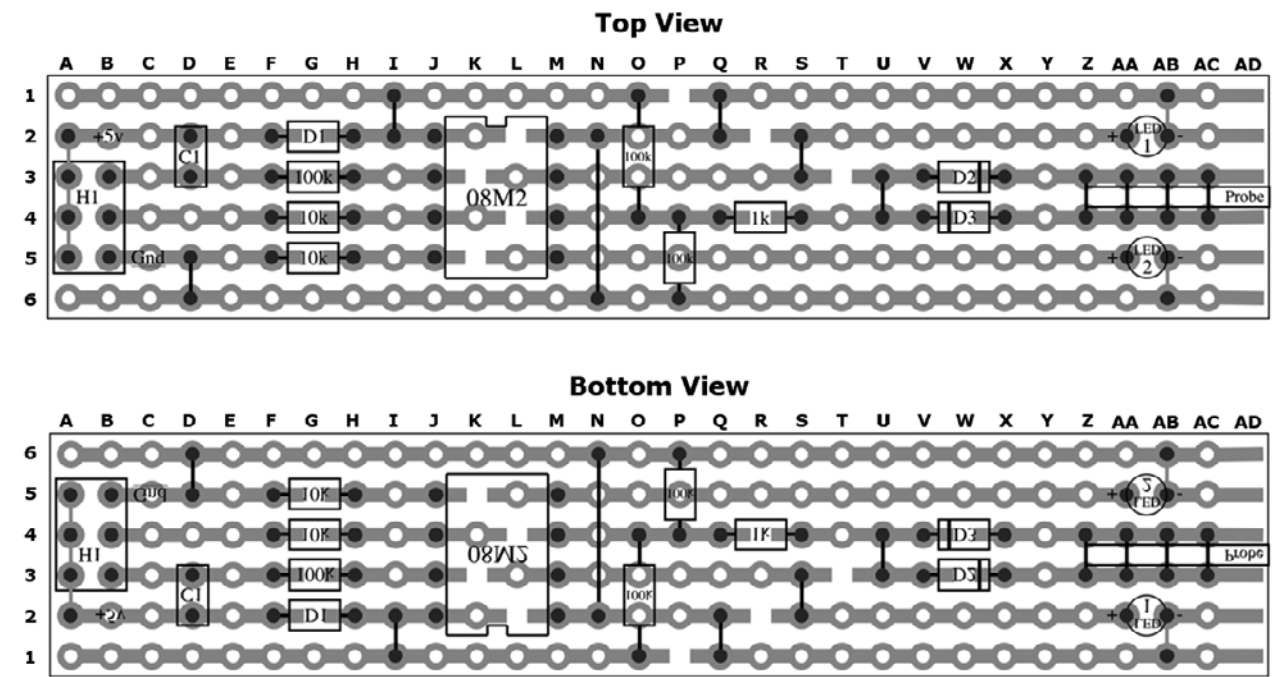
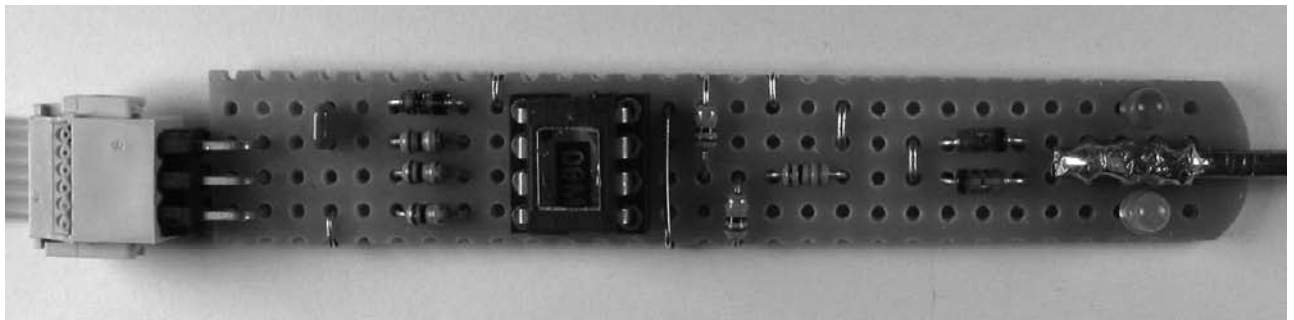
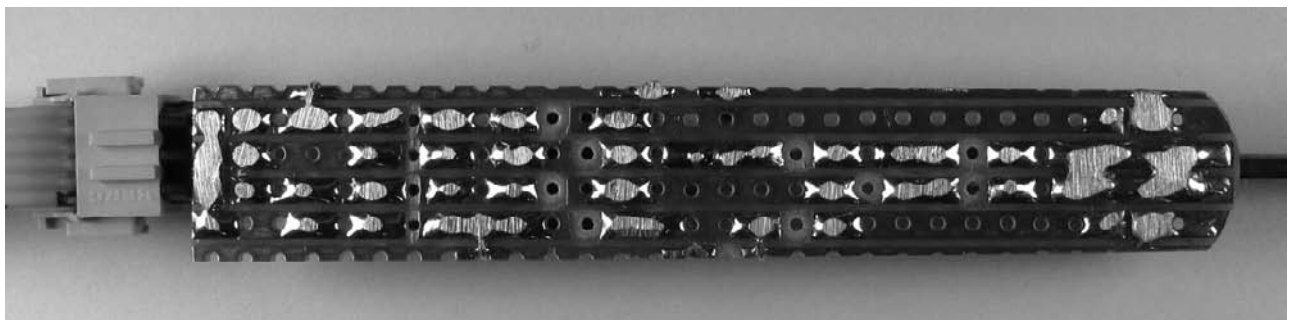

Figure 6-7 Stripboard layout for logic probe project
Figure 6-8 Close-up view of the top of the completed logic probe
Figure 6-9 Close-up view of the bottom of the completed logic probe
The parts list for the stripboard version of the logic probe circuit are listed in the Parts Bin, and the stripboard layout is presented in Figure 6-7. We'll discuss the specifics when we actually construct the probe, but there are a couple of points related to the stripboard layout that I want to clarify before we begin. First, in the layout, you might have noticed that there are no holes in column AD. This is because I included the end of the stripboard (which has no holes in it) in this project because I wanted to be able to round the end of the board to match the curve of the bottom of the test tube, and I preferred not having holes in that area. If you look closely at the photo in Figure 6-6, you can see that the end of the board has been rounded.
I also want to clarify what turned out to be the most difficult aspect of the project. The layout shows the board as having six traces, which makes it 0.6 inches (15.2 mm) wide. The inside diameter of the test tube is also approximately 0.6 inches, so when I first began the project I naively thought everything would fit together perfectly. However, I ran into several problems along the way. Figure 6-8 is a close-up photo of the top of the stripboard that finally worked, and Figure 6-9 shows the bottom of the same board. As you can see from the pattern of partial holes along the top and bottom edges, the board ended up to be far less than 0.6 inches wide; in fact, it tapers from about 0.525 inches (13.3 mm) at the connector end down to 0.475 inches (12.1 mm) at the probe end. This is because the test tube tapers along its length—a fact that I failed to notice before I started!
actually an ordinary finishing nail) to protrude from the center of the bottom of the test tube. In Figure 6-8, you can see that the nail is soldered on top of the board, so the board has to be a little below the midline. Also, I wouldn’t have been able to squeeze the 08M2 into the test tube in that position anyway. For a while, I considered soldering the 08M2 directly to the board, but I finally got it to fit by “lowering” the socket—I’ll explain how in the next section when we actually construct the stripboard.
shaping the board to fit in the test tube. As a general guideline, you want to sand or file the taper on the board so that a little more than half the hole remains at positions A1 and A6 and the holes at positions AC1 and AC6 are almost entirely sanded away, as shown earlier in Figure 6-8. Once the board is prepared, you're ready for the assembly process.
1. Sever the traces on the bottom of the board as indicated in the layout in Figure 6-7.
6. Test-fit the 3 × 2 right angle male header. If necessary, sand or file the end of the stripboard so that the black plastic of the header just overhangs it, rather than sitting on top of the board (see Figure 6-8). Solder in the header and the jumper wire on the bottom of the board that spans from A2 to A5.
negative lead so that it just contacts the adjacent trace as shown in Figure 6-7 and Figure 6-9.